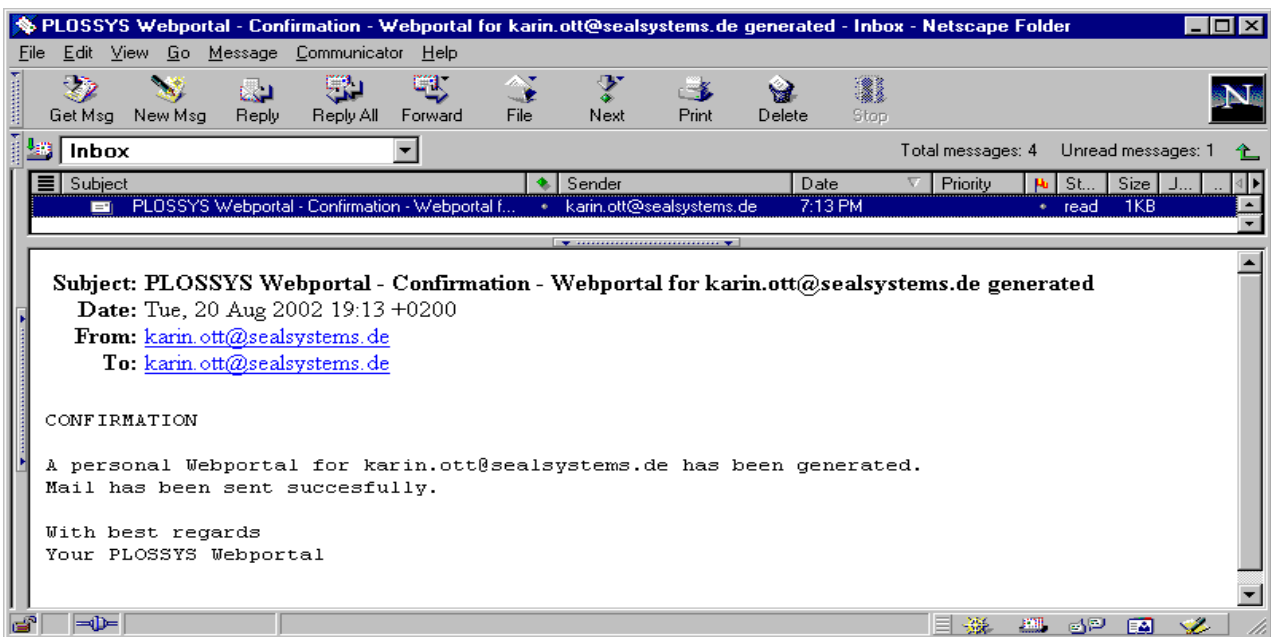

Figure 2-3. E-mail Confirmation of the Web portal Creation
9. A **confirmation mail** is sent to the **sender**, in order to inform them about the success or failure of the creation of the portal and the mail dispatch, see Figure 2-3, page 8.